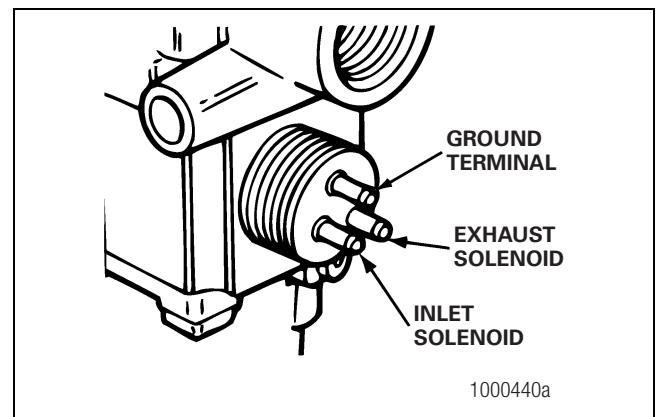

Figure 3.22
- The resistance across each valve solenoid coil terminal and the ground on the ABS valve connector must be 4 to 8 ohms. Figure 3.22.